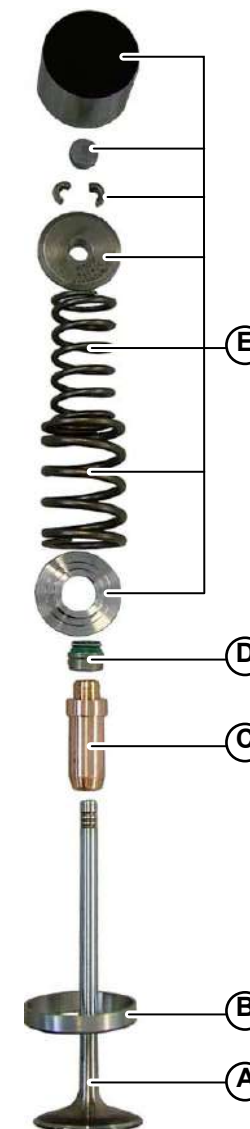

Fig.1
3. Clean the tappet, spring and shim pack (E-Fig.1) in the following order: